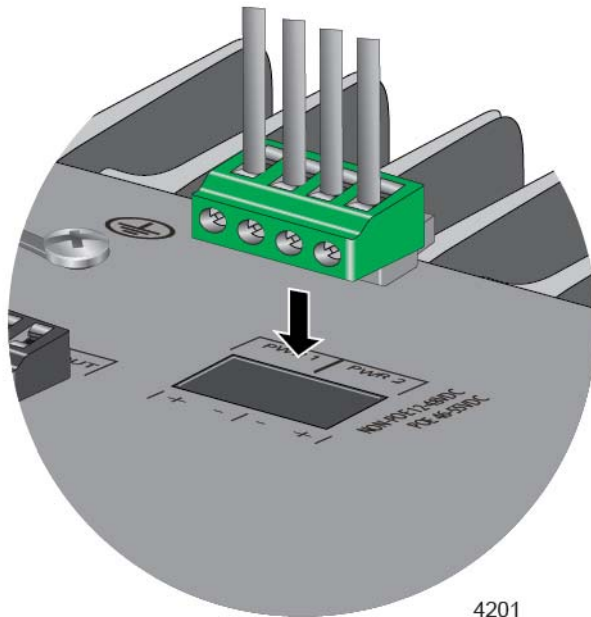

Figure 47. Connecting the Power Cable to the PWR 1 - PWR 2 Connector
2. Connect the power cable to the PWR 1 - PWR 2 connector on the top panel. Refer to Figure 47.